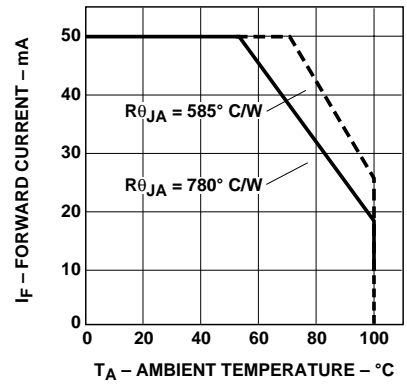

Figure 4. Maximum Forward Current vs. Ambient Temperature. Derating Based on $T_{JMAX} = 130^\circ\text{C}$.
1. Derate linearly as shown in Figure 4.